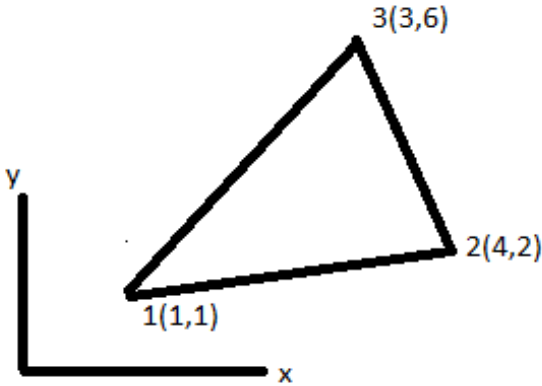

Figure.4
- (b) Determine the x and y coordinates of point P for the triangular element shown in Figure.4. The shape functions N_1, N_2 are 0.2 and 0.3 respectively (16)